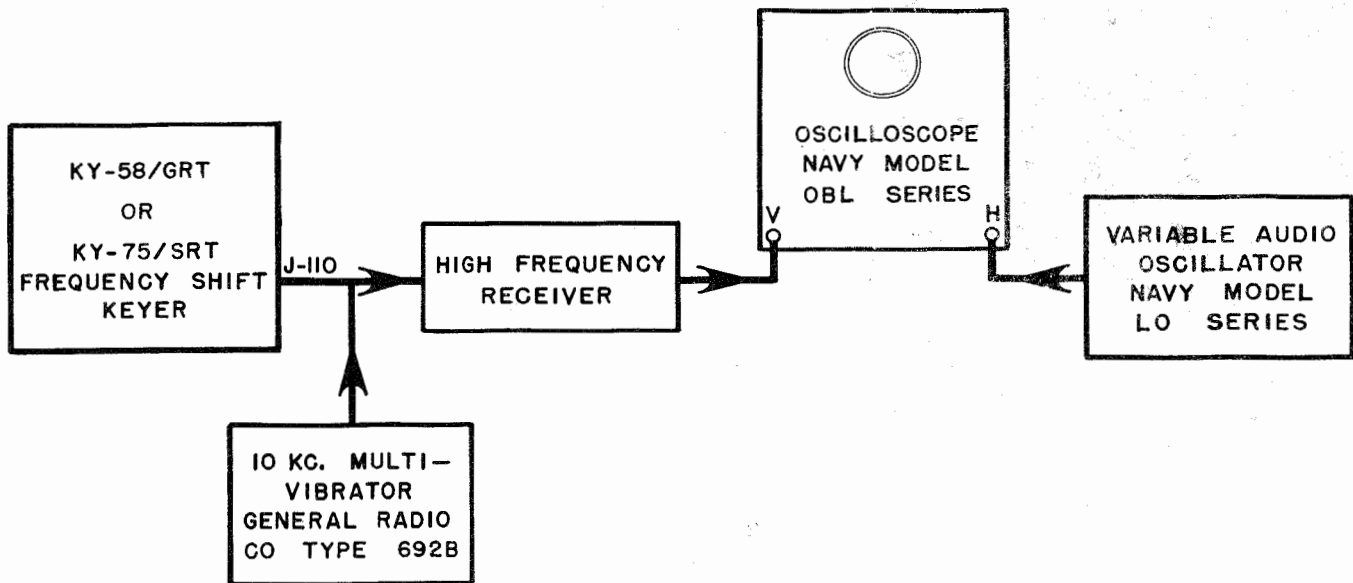

Figure 7-5. Interconnections for Frequency Deviation Test
(3) FREQUENCY DEVIATION FOR FREQUENCY-SHIFT TRANSMISSION.—See Figure 7-5 for the method of connecting the equipment required for this test.